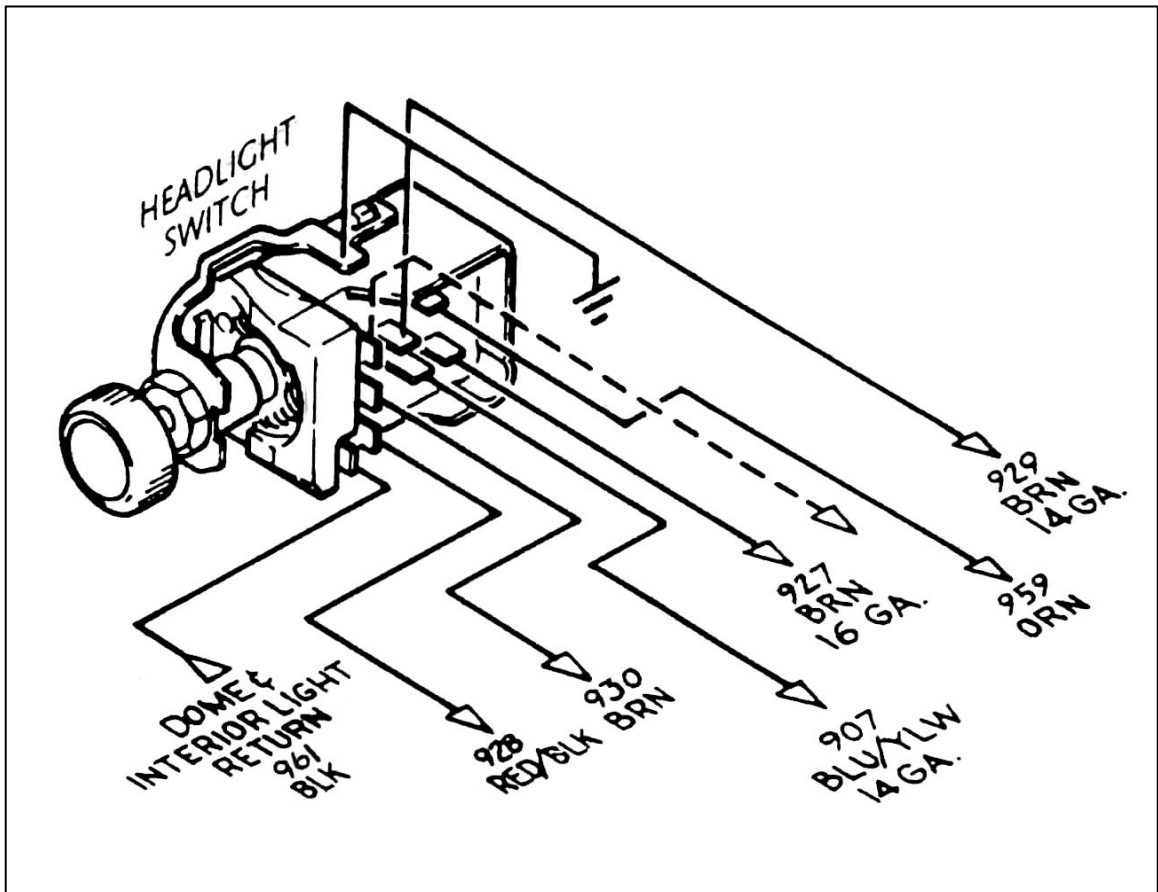

Figure 10-6 HEADLIGHT SECTION B Wiring (GM Style Headlight Switch – Painless Part #80152)
- 10.4.1** Interior Lights are switched through the door switches and the dash-mounted headlight switch, which is usually rotated counter-clockwise to turn on. These switches apply ground to the circuit. YOU WILL NEED TO SUPPLY THESE GROUND WIRES. 12V is continually present at the light bulbs. See **Figure 10-6**.
10.6 HEADLIGHT SECTION B Wiring. See Figure 10-6.
*Note: On late-style GM headlight switches, the park lights terminal to which wire #927 (brn) is connected (shown in **Figure 10-6**) has been omitted. In this case, wire #927 must be connected as indicated by the dashed line in **Figure 10-6**.*